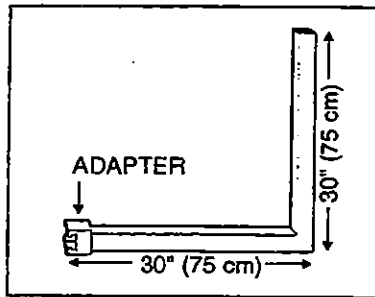

Figure 11 18096
**Note:** A convenient tool to relieve spring tension can be fabricated with 2 lengths of square tubing approximately 30" (75 cm) long, welded together, and fitted at one end with a cut-out adapter to hold the spring. See figure 11.